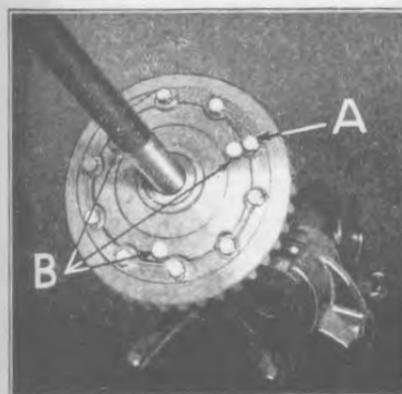
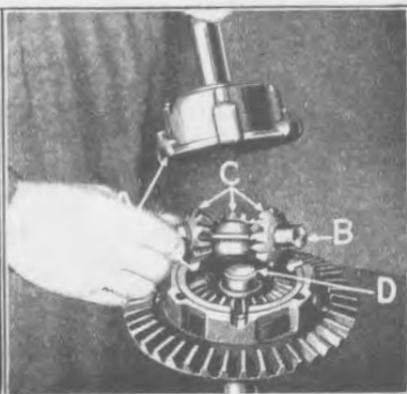

Fig. 325
Fig. 326
570 Break wire and run out the 10 differential drive gear cap screws (See "A" Fig. 325). Break wire and run off nuts from ends of the three differential case bolts "B". The right and left differential cases can now be separated (See "A" Fig. 326) and the differential spider "B", pinion gears "C" and washer "D" lifted out. Differential cases right and left can then be withdrawn from axle shafts.
draw them down tightly into gear. The bolts are then wired together, two at a time (See "A" Fig. 325).
- 603 Place axle shaft washer on end of axle shaft (See "D" Fig. 326).
- 605 Position differential case—right on differential case—left as shown at "A" Fig. 326, making sure that pinions mesh with differential gear in case.